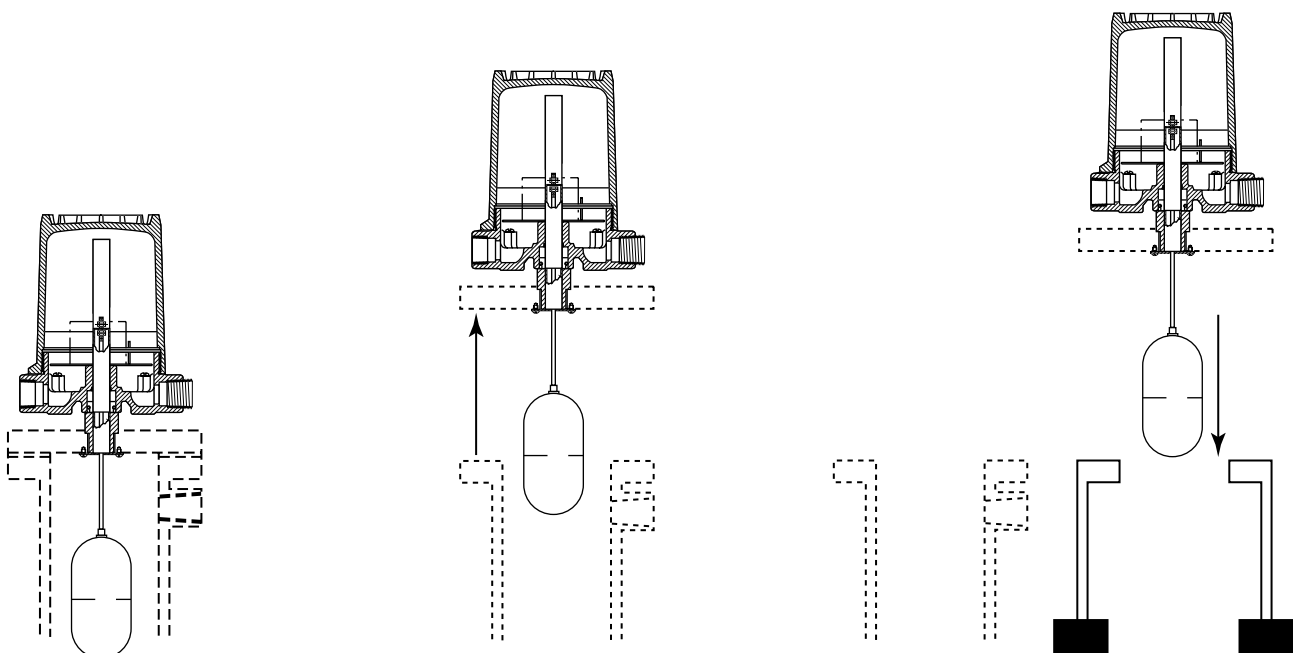

Figure 24
5. Prepare an area where the head assembly can be placed such that it rests on the flange in its normal orientation (two 2x4 boards placed across an open drum work well). Refer to Figure 24.
10. Replace the assembly keeping it as vertical as possible. Carefully lower the assembly into the chamber making sure that the stem does not become bent during installation. Refer to Figure 24.